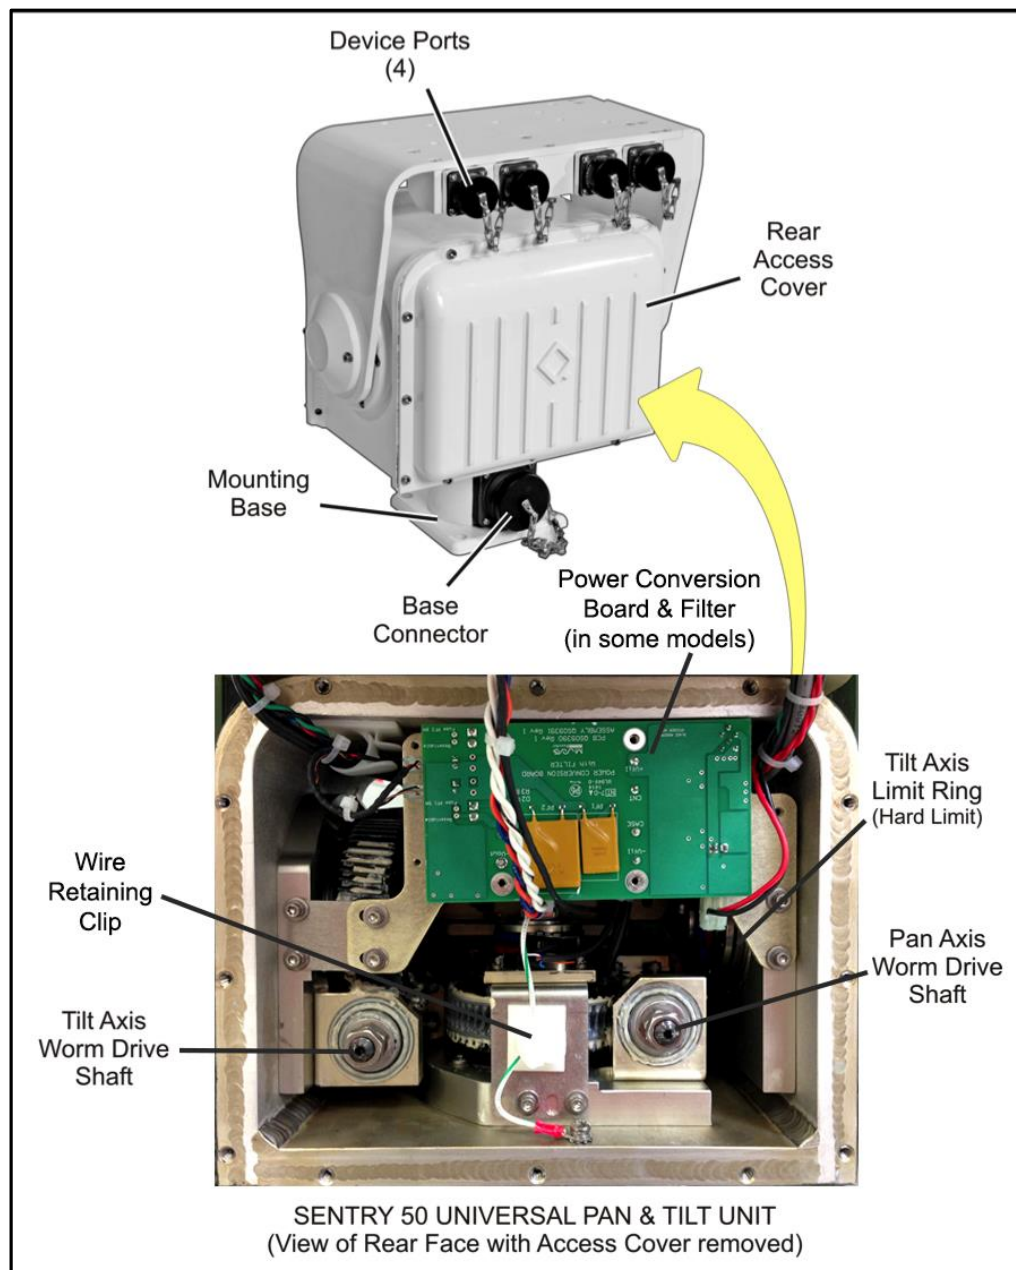
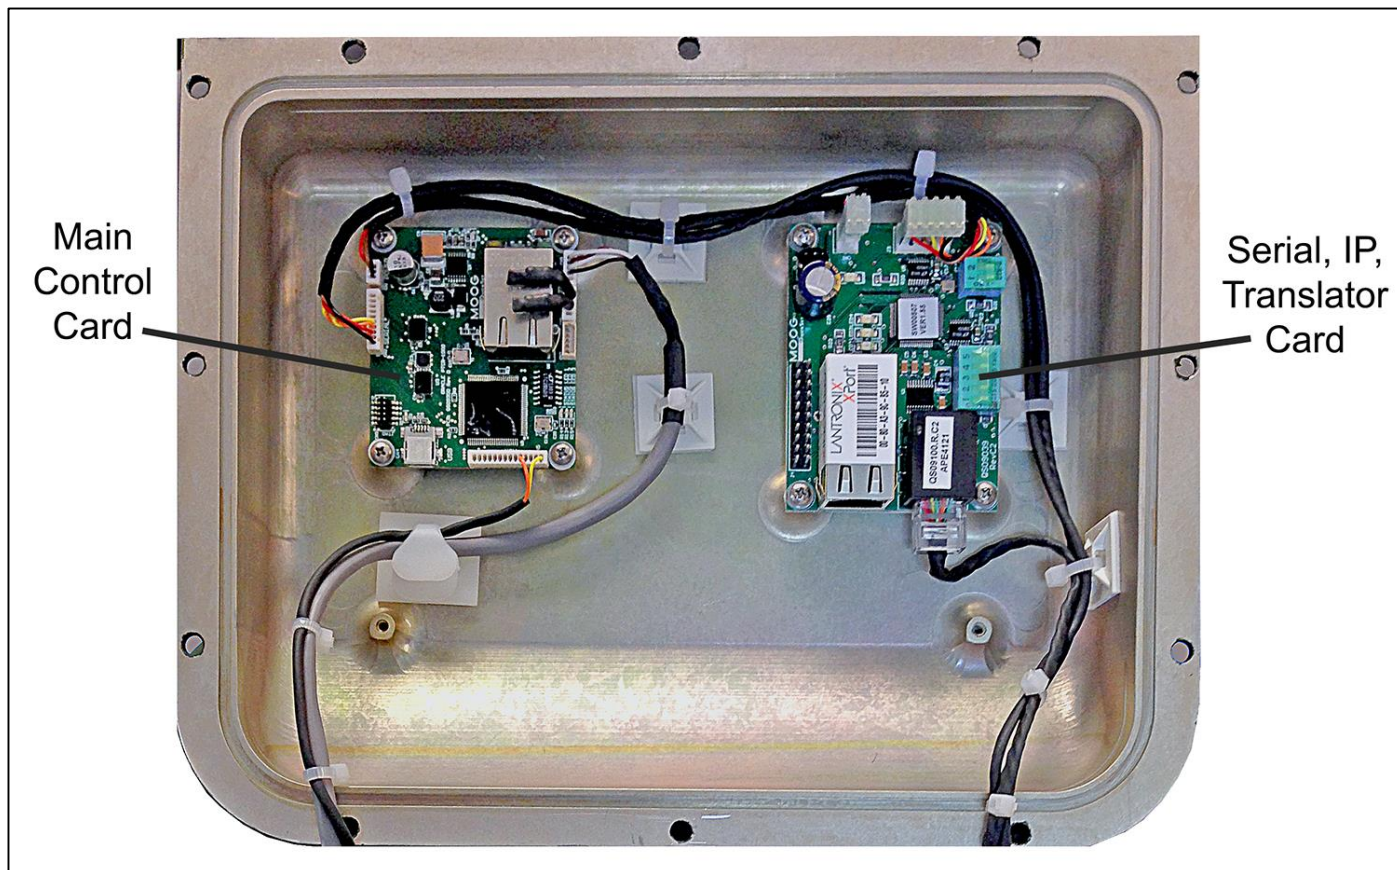
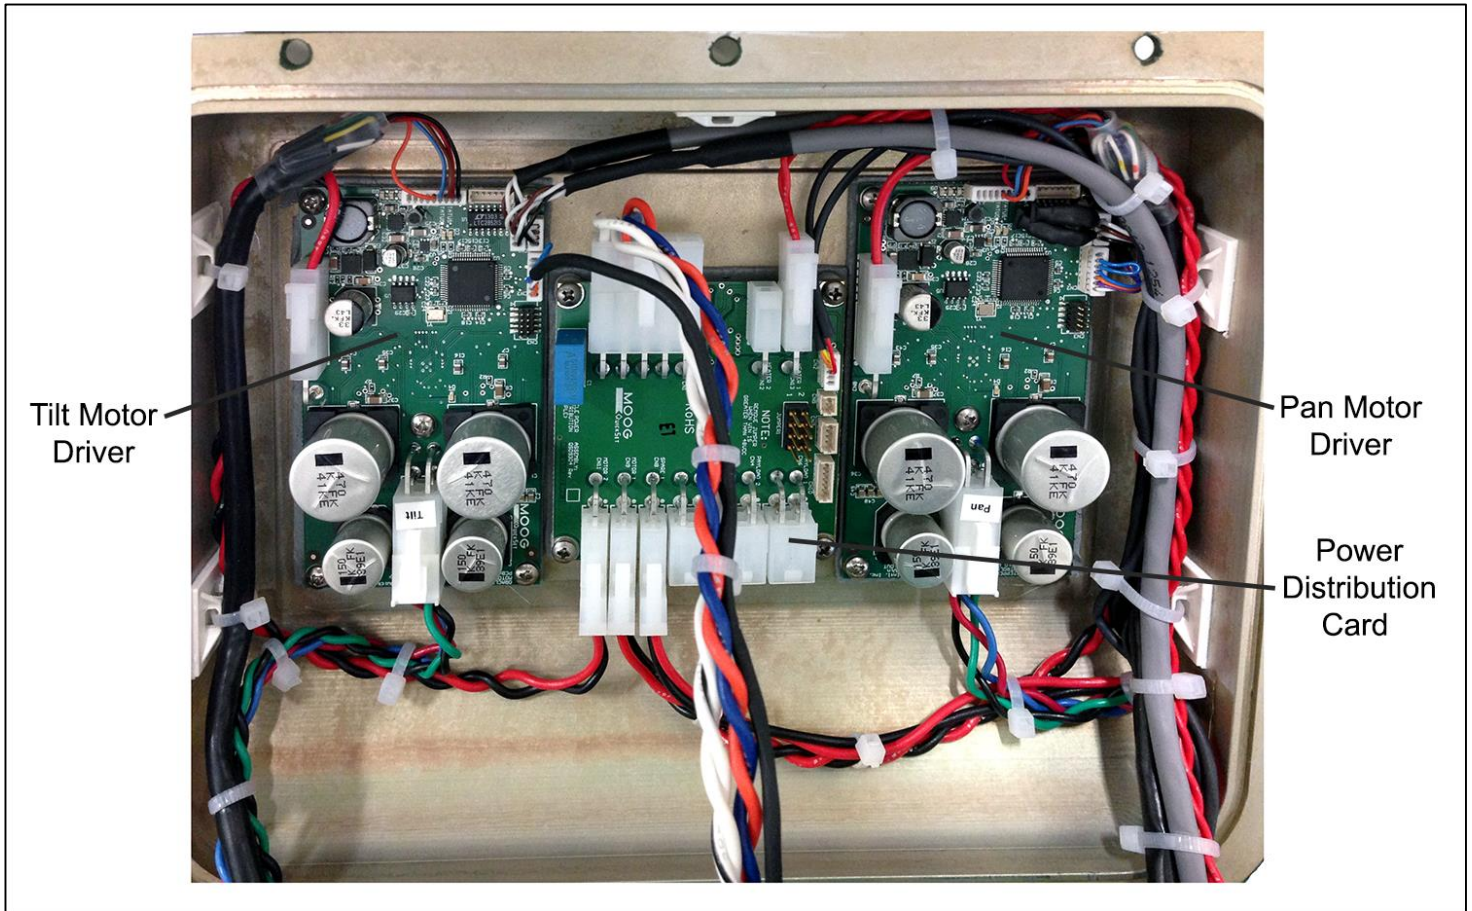

Figure 4: Pan & Tilt Unit Major Components – Rear Face
Figure 7: Front Cover- Main Control & SIPT Cards
Figure 8: Rear Access Cover - Motor Drivers and Power Distribution Card
The PMC (QS09304) is a power distribution card. It also performs transient and voltage protection. Some units operate from a 70 vdc supply. If the unit operates from 70 vdc, there is a DC to DC converter board (QS09391) that converts the 70 v to 24 vdc (see Figure 4). Other units operate from a 24 vdc source. Refer to your model schematic and description.
The MCC (Main Control Card, QS09302) and the SIPT (QS09100) are attached to the inside of the front cover, and can be accessed by removing the front cover (Figure 7). Also, the two motor drivers (QS09312) and the power distribution board (QS09304) are attached to the rear cover (Figure 8). CAUTION: When opening the rear cover, UN-HOOK the wire bundle from the wire retaining clip shown in Figure 4, 5, & 6. Connect wire bundle to the clip before closing the Rear Cover.
Also connected to the motor driver cards are the two (2) position Encoders which measure the relative position of the Pan and Tilt. Two (2) mechanical Limit Rings (Hard Limit Switches) providing a limit of travel for the up and down movement of the Tilt Axis. Non-continuous models have similar Limit Rings for limiting azimuth rotation. Two (2) Stepper Motor Drivers (Pan & Tilt) are mounted to the inside of the Rear Access Cover (Figure 8).